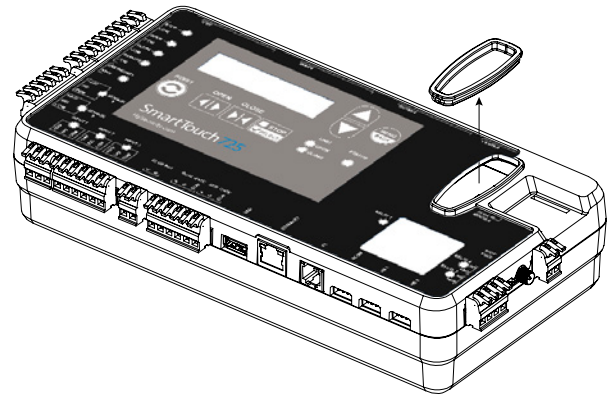

Figure 14. Remove OXI Receiver Cover
2. Remove the rubber plug or OXI receiver from OXI receiver slot (Figure 14).